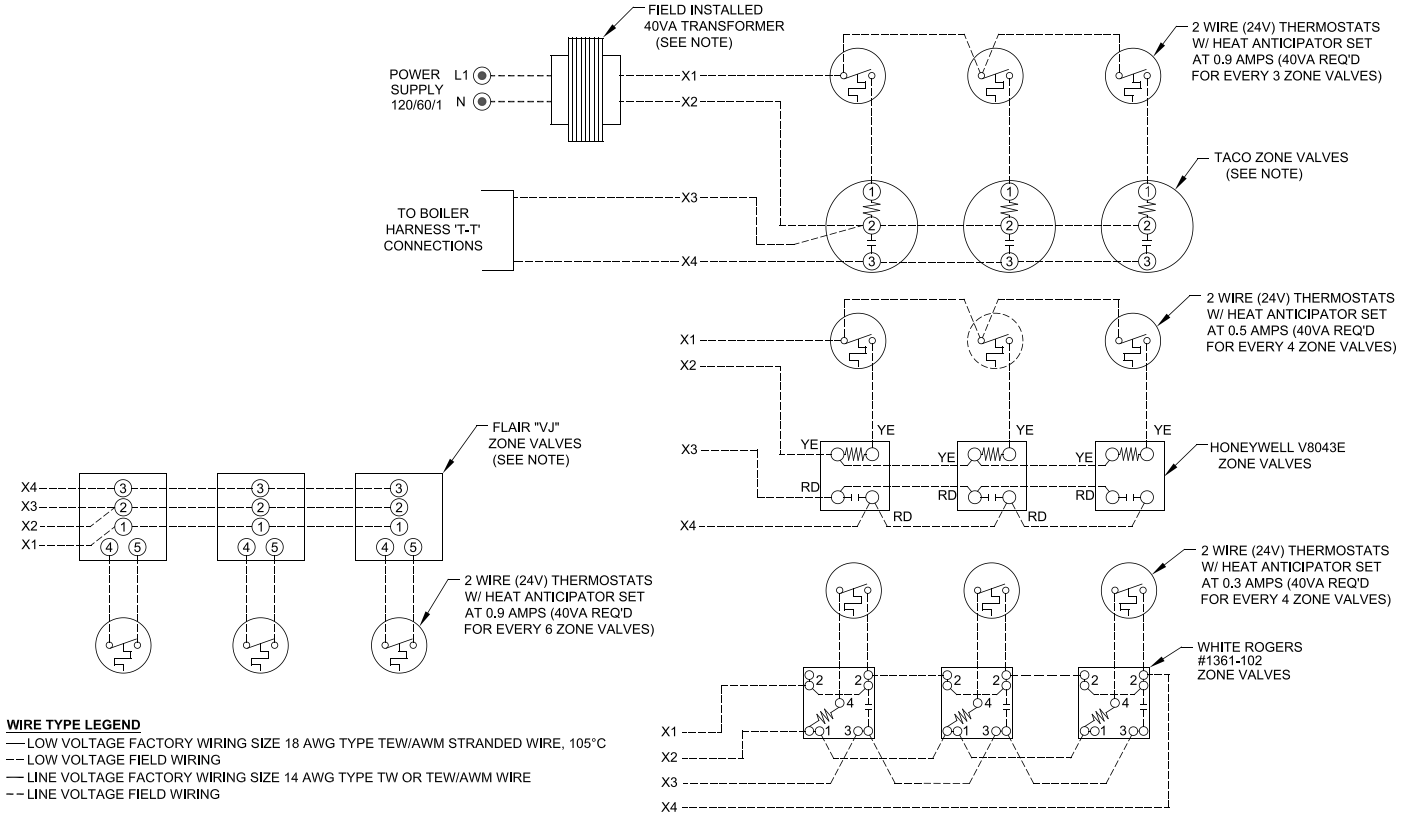

Figure 8-3: Wiring Schematic, Zone Valves
- D. For installations using zone valves, provide separate transformer for zone valve wiring. Consult zone valve manufacturer for assistance. See Figure 8-3.